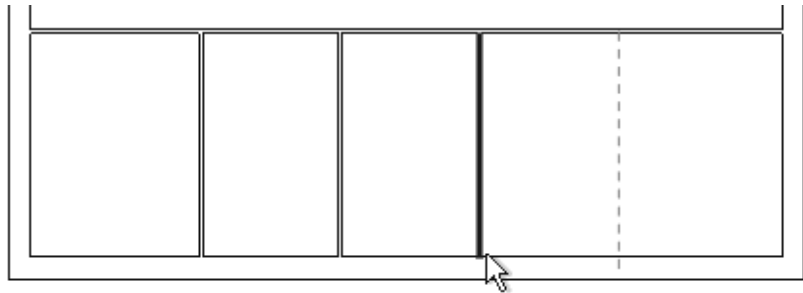

Figure 2–80
8. Which of the following are ways in which you can create additional parallel walls, as shown in Figure 2–80? (Select all that apply.)